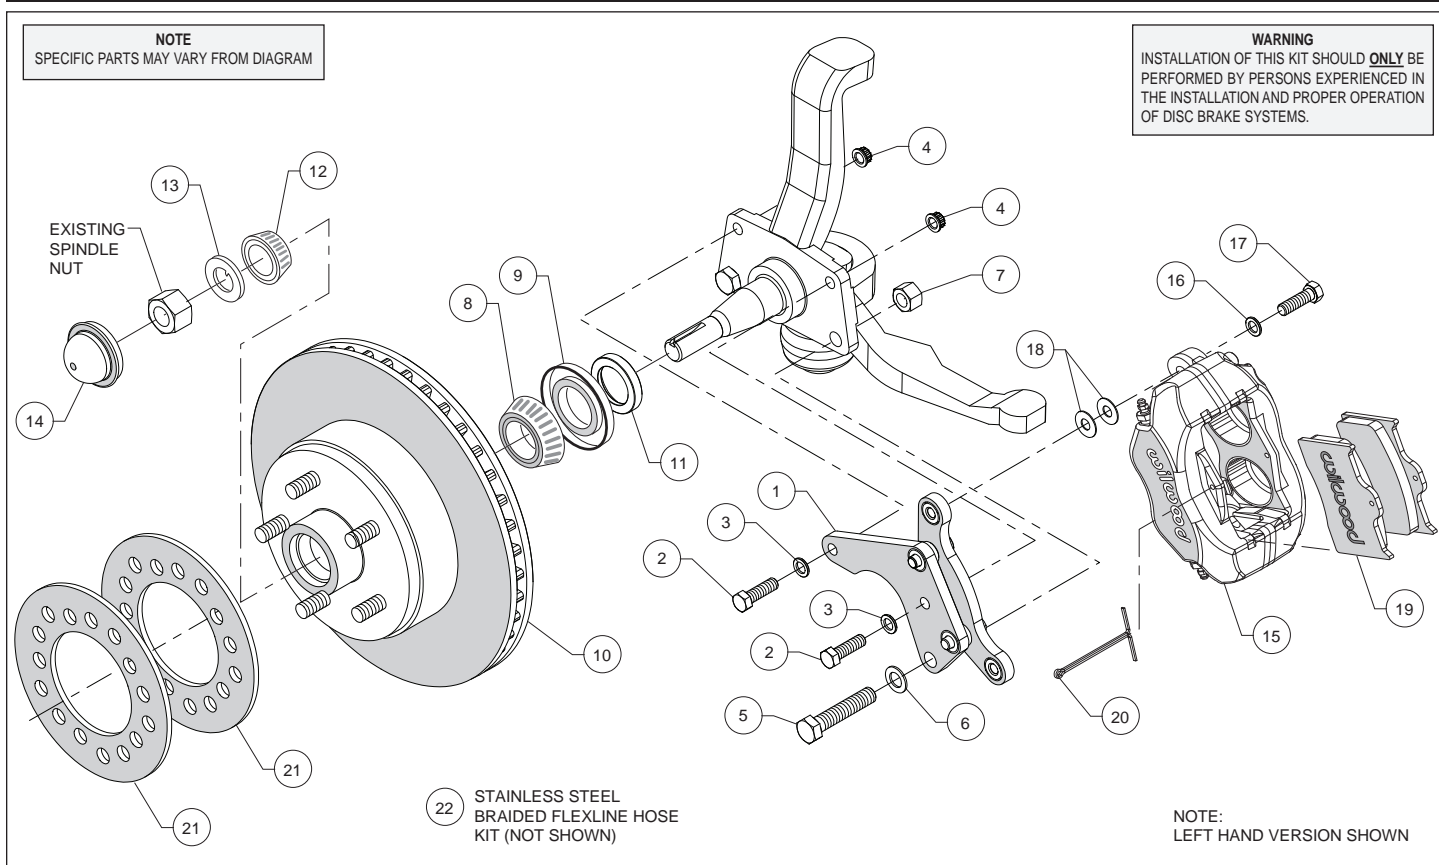
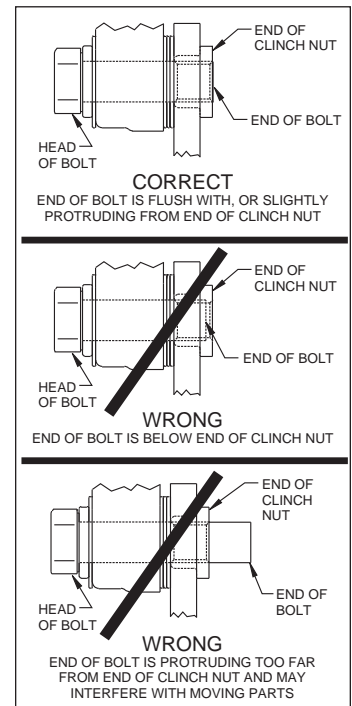

Figure 1. Typical Installation Configuration
Figure 3. Clinch Nut Engagement Diagram
Assembly Instructions (numbers in parenthesis refer to the parts list, on the preceding page and Figure 1): **CAUTION:** All mounting bolts must fully engage clinch nuts. Be sure to check that all bolts are either flush or protruding through flanged side of clinch nut after shimming, Figure 3.
- Orient the caliper mount bracket (1) as shown in Figure 1 and Photo 1, and install using bolts (2 and 5), washers (3 and 6), and secure using nuts (4 and 7) as shown in Figure 1. Ensure that the flanged heads of the clinch nuts in the bracket are facing outboard, Photo 1. Temporarily tighten the mounting bolts. **NOTE:** The bracket must fit squarely against the mount bosses on the upright. Inspect for interference from casting irregularities, machining ridges, burrs, etc. Apply red *Loctite*® 271 to the threads and torque lock nuts (4) to 30 ft-lb. and nut (7) to 77 ft-lb.
- Pack the small outer bearing cone (12) with high temperature disc brake bearing grease and install into hub (10). Slide the hub/rotor onto the spindle. Secure using spindle washer (13), Photo 4, and OEM spindle nut. Adjust bearings by tightening the wheel bearing nut to 60 **in-lbs.** while turning the hub/rotor assembly. Back off the adjusting nut one slot and install a new cotter pin (not supplied). **The resulting adjustment should be zero (no pre-load to 0.003 inch end play).**
- Press the dust cap (14) into the hub (10).
- NOTE:** Please reference the caution statement at the beginning of the assembly instructions. Mount the caliper (15) onto the caliper mounting bracket (1) using bolts (17) and washers (16), as shown in Figure 1. Initially place two .035" thick shims (18) on each bolt between the caliper and the bracket, Photo 5. Temporarily tighten the mounting bolts and view the rotor (10) through the top opening of the caliper. The rotor should be centered in the caliper, Photo 6. If not, adjust by adding or subtracting shims (18) between the bracket and the caliper. Always use the same amount of shims on each of the two mounting bolts. **NOTE:** The end of each bolt must be flush with or slightly protruding from the head of the clinch nut, as shown in Figure 3. If necessary place spare shims between washer (16) and caliper mounting ear to achieve the proper clinch nut engagement. Once the caliper alignment and clinch nut engagement are correct, remove the bolts one at a time, apply red *Loctite*® 271 to bolt threads, and torque to 40 ft-lb.